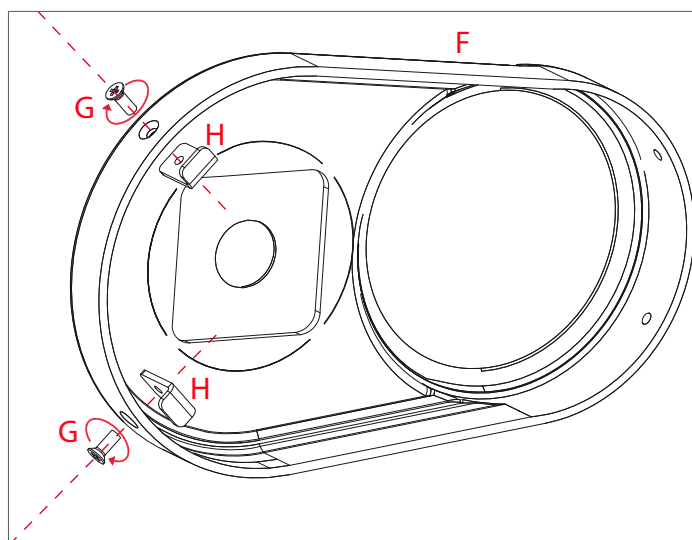

Figure 4.7 Mid motor assembly 3
7. Use two M3 x 6 fasteners [G] to slightly attach the L-shaped brackets [H] to the motor cover (Fig. 4.7).
9. Use two M3 x 6 fasteners [G] to attach the L-shaped bracket [H] to the motor cover (Fig. 4.7).
7. Use two M3 x 6 fasteners [G] to attach the "L" brackets to the motor cover [H] (Fig. 4.7).